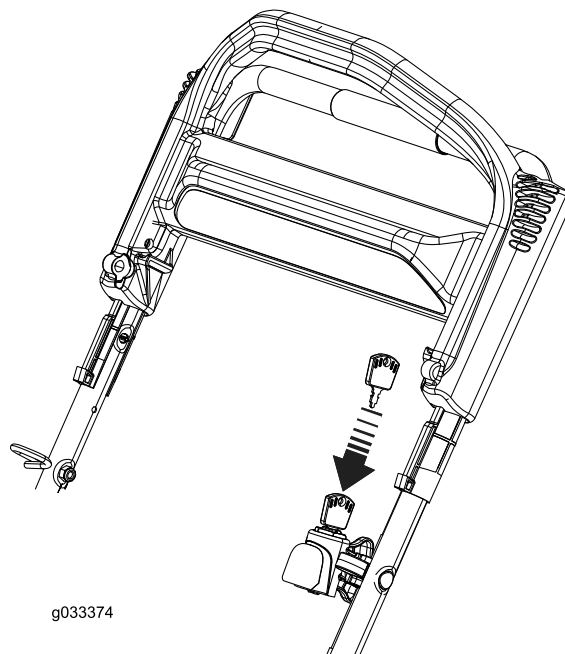
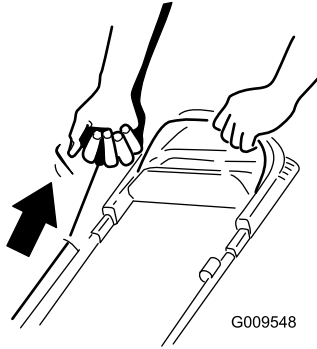

Figure 18
Figure 19
2. Insert the key into the ignition and turn it (electric-start model only; refer to Figure 18) or pull the recoil-start handle (Figure 19).
Note: When you pull the recoil-start handle, pull it lightly until you feel resistance, then pull it sharply (Figure 19). Allow the rope to return to the handle slowly.